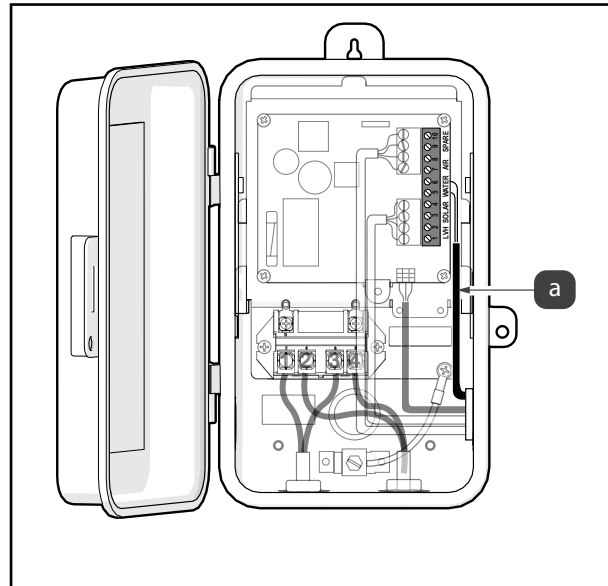

Figure 7. Connect Low Voltage Wires
4. Install Low Voltage Wires. Install the wires for the temperature sensor connections through the side knockout, see Figure 7 (a).